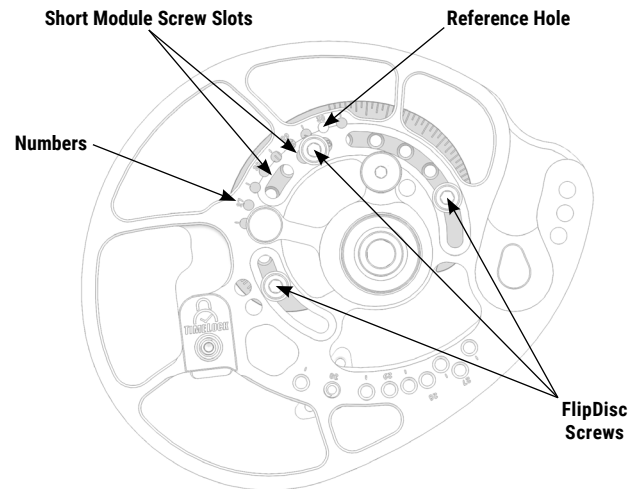

Figure 1: Reckoning Gen2 Series FlipDisc Settings
Refer to Figures 1 & 2 and Charts 1A & 1B
3. Notice the numbers on the cam and the reference hole on the FlipDisc Pro module (Figure 1). The numbered marks corresponds to the draw length setting.
5. Identify the two short module screw slots on the cam. In each draw length setting, when the reference hole on the module lines up with the desired draw length setting hole on the cam, one module screw hole will be accessible through one of the two short slots. Fasten one module screw into the threaded hole that is accessible through the appropriate short slot as shown in Figure 1.